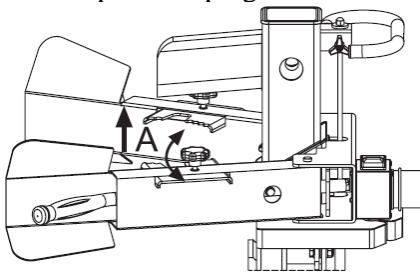

Fig.16 : b) Adjust log holders (A)
b) Adjust the Log Holders (A) according to the diameter of the log to obtain most comfortable Control Levers angle (Fig.16).